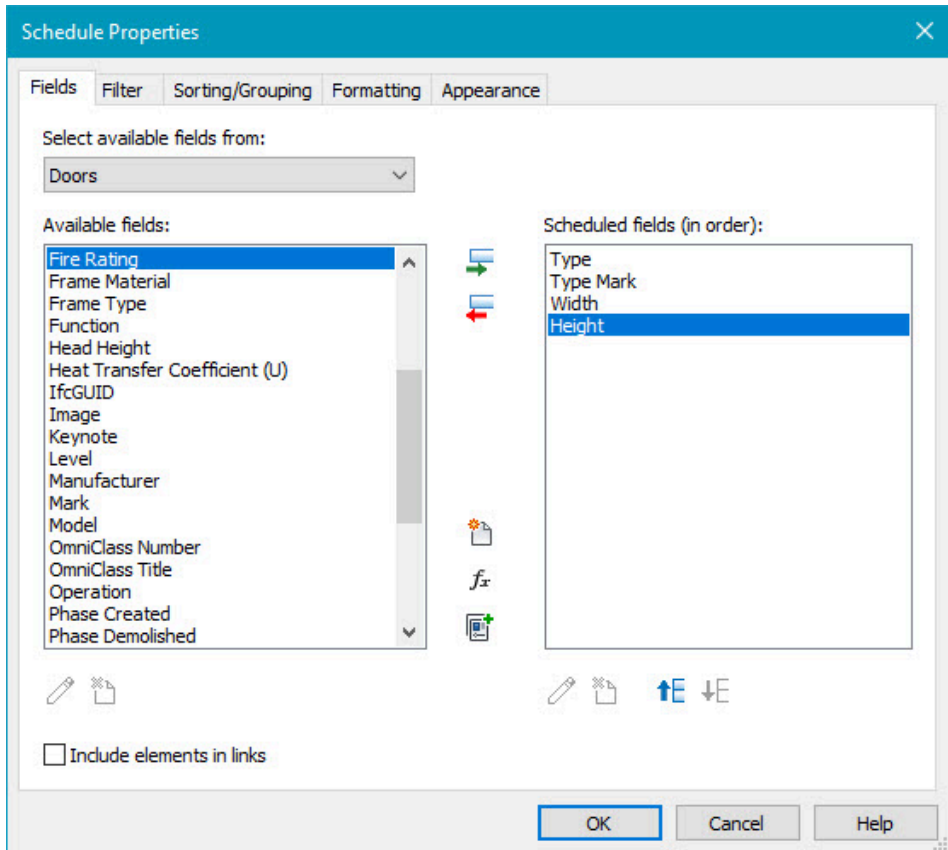

Figure 12.2 Schedule Properties window with fields selected
6. Select the following available fields and add them to the schedule fields in the following order using the Add Parameters icon  , see Figure 12.2.